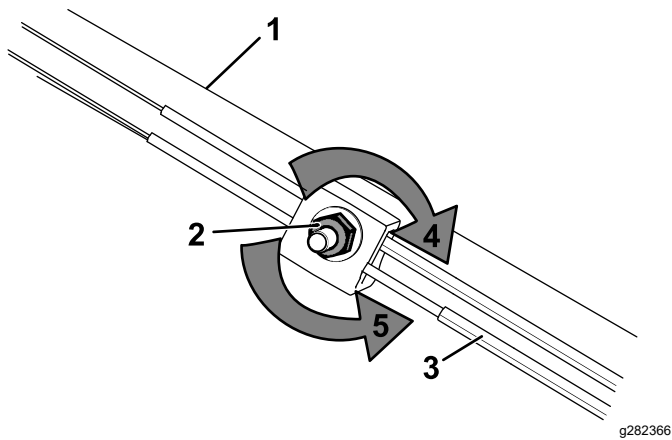

Figure 49
- Turn the adjustment nut counterclockwise to loosen the cable adjustment (Figure 49).
- Adjust the tension on the cable (Figure 49) by pulling it forward or pushing it back and holding that position.